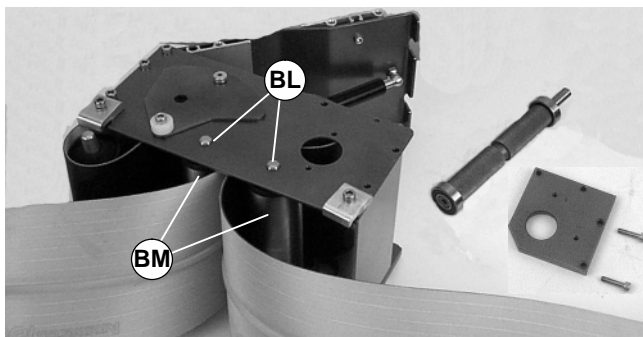

Figure 45
- For 5" (127 mm) or wider conveyor, depress both sides of each spring-loaded shaft (BL of Figure 45). Remove pulleys (BM).